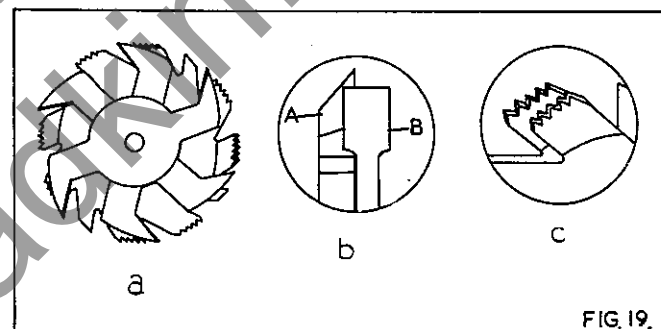

FIG. 19.
A dado head is made up of two outside saws and 5 inner cutters. Various combinations of saw and cutters are used to cut grooves from $1/8$ " to 1" wide (3mm to 25mm). Inner cutters are heavily swaged and must be arranged so that the heavy portion falls in the gullets of the outside saw as shown on Fig. 19 (1), Fig. 19 (b) shows how the saws and cutters overlap "A" being the saw and "B" being the inside cutter. A $1/4$ " (6mm) groove is cut by using the two outside saws fitting the ground teeth directly opposite as shown in Fig. 19 (c) in order to allow clearance for the slight set of the saw teeth.